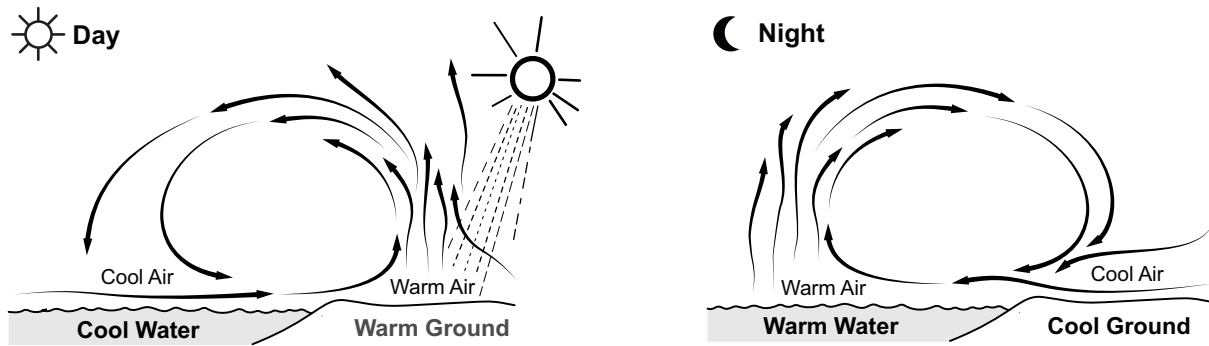

Figure 1-4. Convection Effects.
- **Convection Effects.** Convection effects typically occur in the summer because the sun heats the Earth's surface, causing the air currents to push straight up and lift air to a point of saturation (see Figure 1-4).